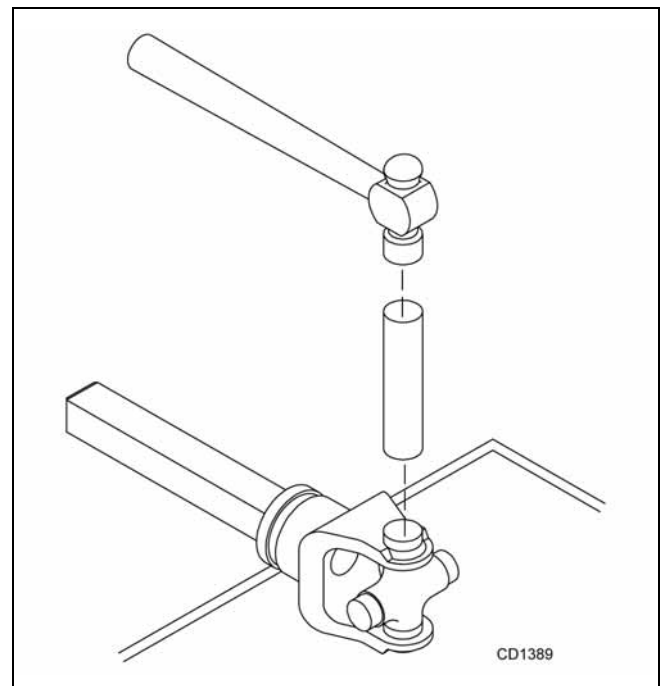

Figure 28. Install Cups
3. Seat cups by placing a drift or socket (slightly smaller than the cup) on cup and rap with a hammer. See Figure 28. Install snap ring and repeat on opposite cup